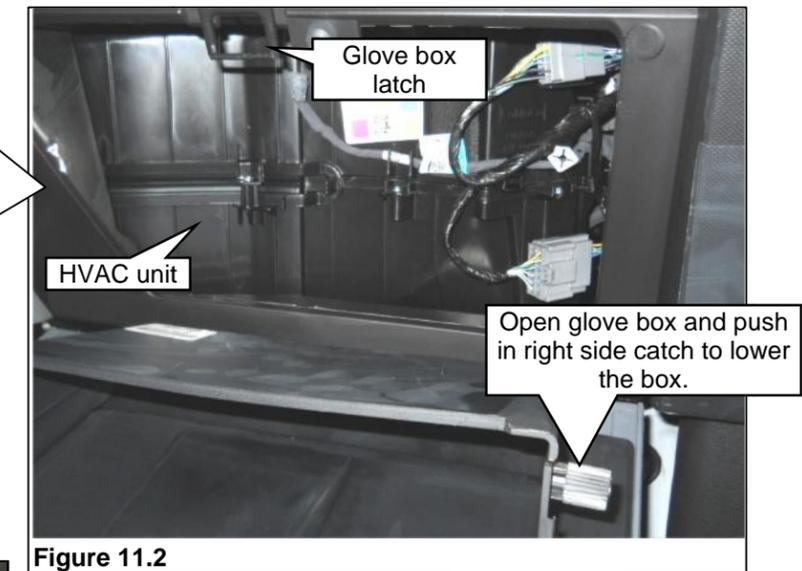

Figure 11.2
3. Open the glove box and push in the right side near the catch. Lower the glove box out of the way. **Figure 11.2.**